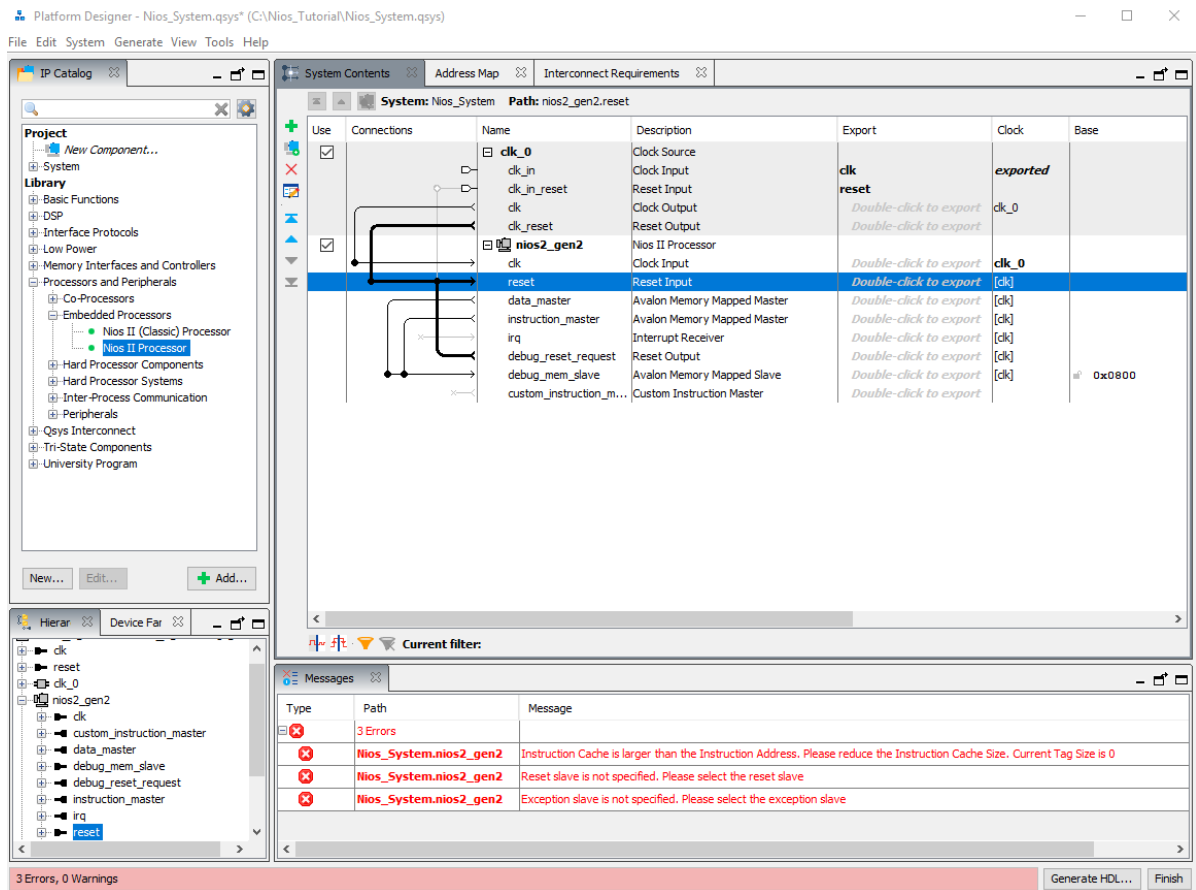

Figure 1-10 Connecting clk and reset
- 7.) You can rename system components if you would like, but that won't have any impact on the system or its function. Now we will connect the Nios processor to the clk. We will **connect clk and reset** as shown in figure 1-10. These are connected by clicking the hollow dots. When the dots become solid, it means there is a connection.